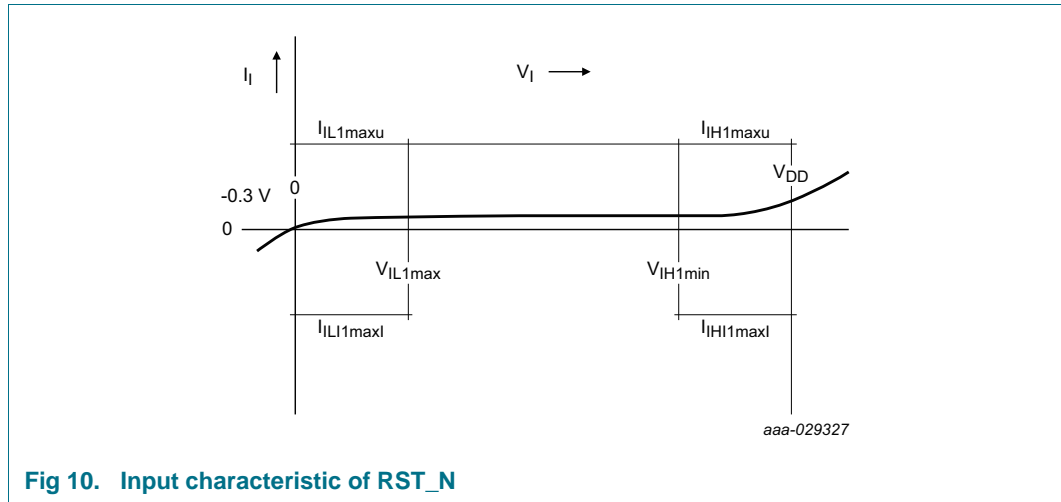

Fig 10. Input characteristic of RST\_N
- [3] The active low RST\_N input internally has a resistive pull-down device to VSS. Accordingly a current is flowing into the pad voltages above 0 V. Figure 10 shows the RST\_N input characteristic.